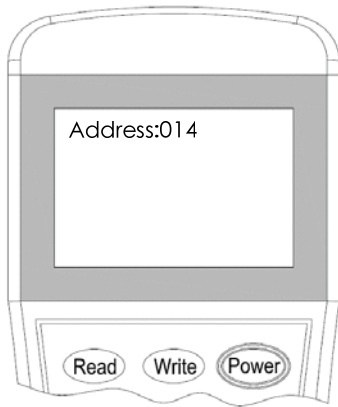
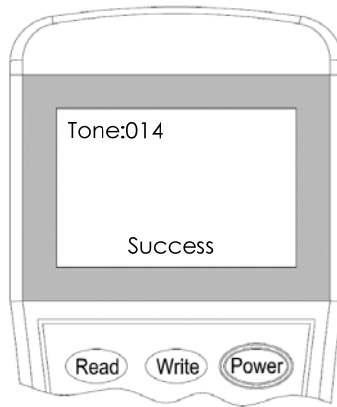
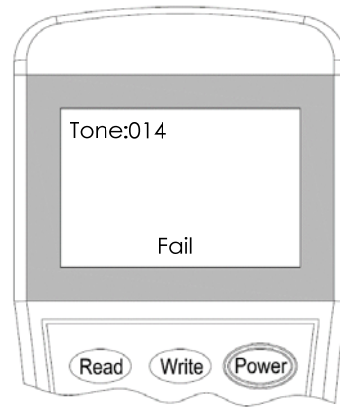

Fig.16 Tone setting
Fig.17 Success to setting
Fig.18 Fail to setting
2. Switch-on the programmer, then press button **"4"** to set the desired tone, as shown in figure 16. Write the number of the corresponding tone and click the button **"write"**. The word **"Success"** or **"Fail"** on the screen means that the success or not of the encoding mode setting, as shown in figure 17 and figure 18.